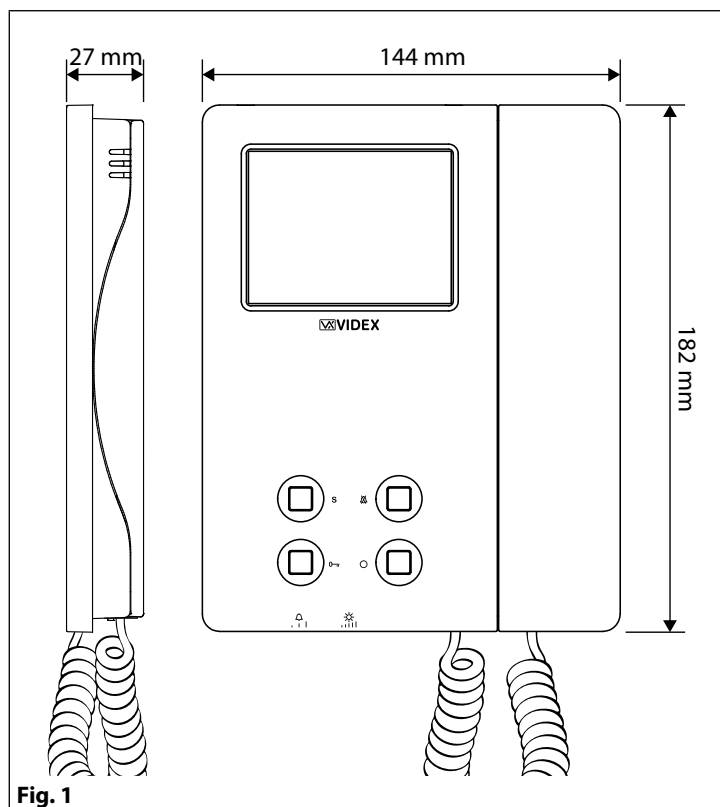
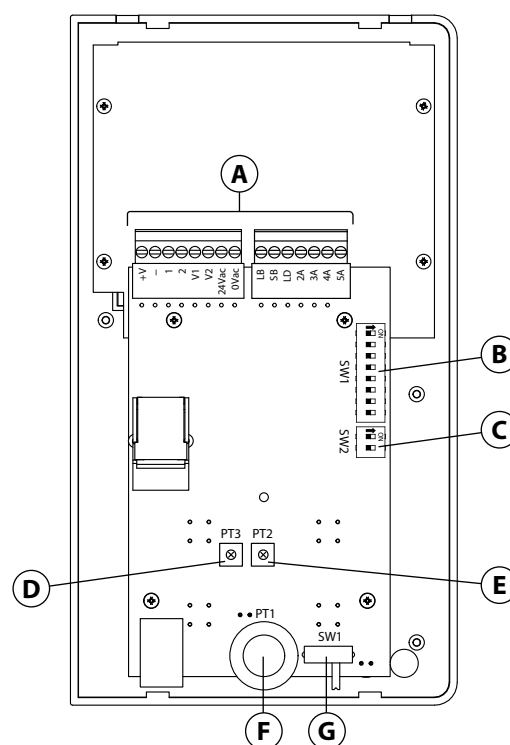

Fig. 1
Fig. 2
1. Place the surface box against the wall (165-170cm between the top of the box and the floor level as shown in **Fig. 1**) and mark the fixing holes for the wall plugs and the hole for the cables **(E)** (**fig. 2**). Observe the orientation of the box with the hinge on the left;
2. As shown on **Fig. 2**, drill the fixing holes **(A)**, insert the wall plugs **(B)** and feed the cables **(E)** through the surface box opening **(D)**, fix surface box **(C)** to the wall using the screws **(F)**;
1. Protect the module support frame fixing holes from dust then embed the back box into the wall (165-170cm between the top of the box and the floor level as shown on the **Fig. 1**) feeding the cables **(E)** (**Fig. 2**) through a previously opened hole in the box. Observe the direction of the box ensuring the hinge is on the left and take care that the box profile is in line with the finished wall profile;
1. In order to install the videophone, it is necessary to remove the cover, which contains all the electronics, from the base: firstly disconnect the handset from the videophone (by removing its plug from the videophone) then insert a 5.5mm flat screw driver into the clip (A) then rotate clockwise until you listen a "CLICK!". Repeat the same operation with the other clip as shown in Fig. 1.
2. Pull outwards the top part of the cover as shown in Fig. 2. **Don't pull the cover straight.**